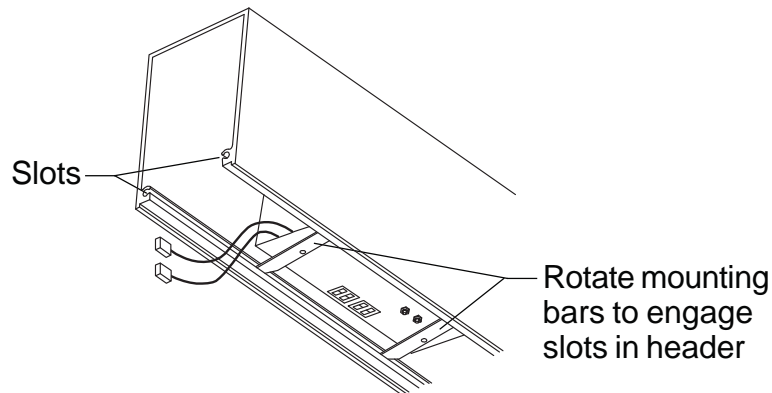

Figure 8-2
- 8.2. Raise the control box into the header and rotate the two mounting bars so they engage the slots that run the length of the header (Figure 8-2).